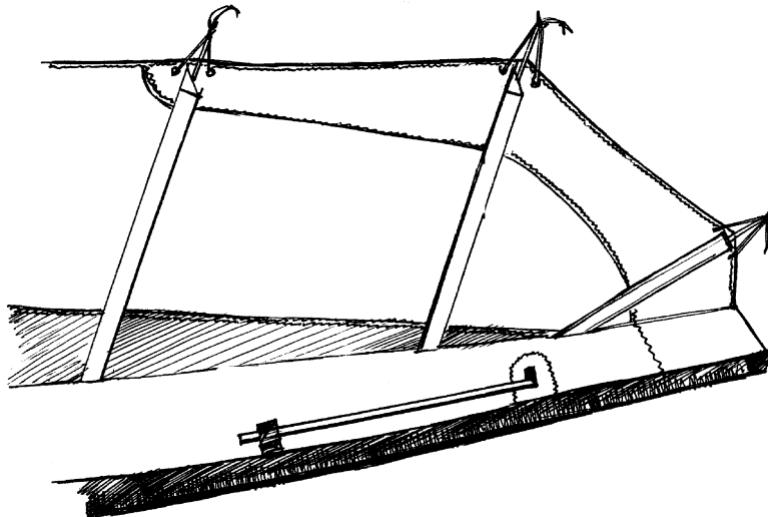

Fig. 42
4.1.2. Remove the washout tips and attach them by Velcro (Fig. 42).